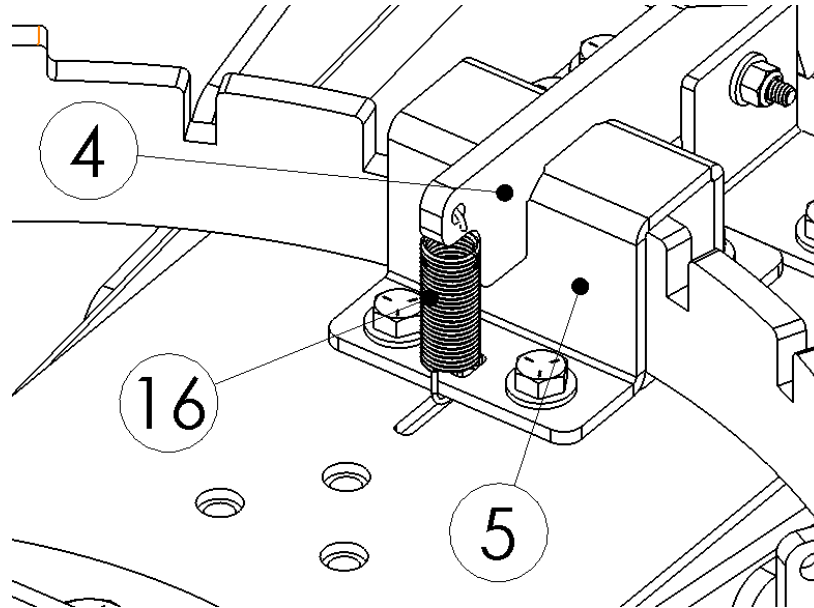

Figure 9
- 5) Install the Lock Lever Spring between the Pivot Lock Lever and Pivot Lever Support Bracket using a needle nose pliers as shown Figure 9.